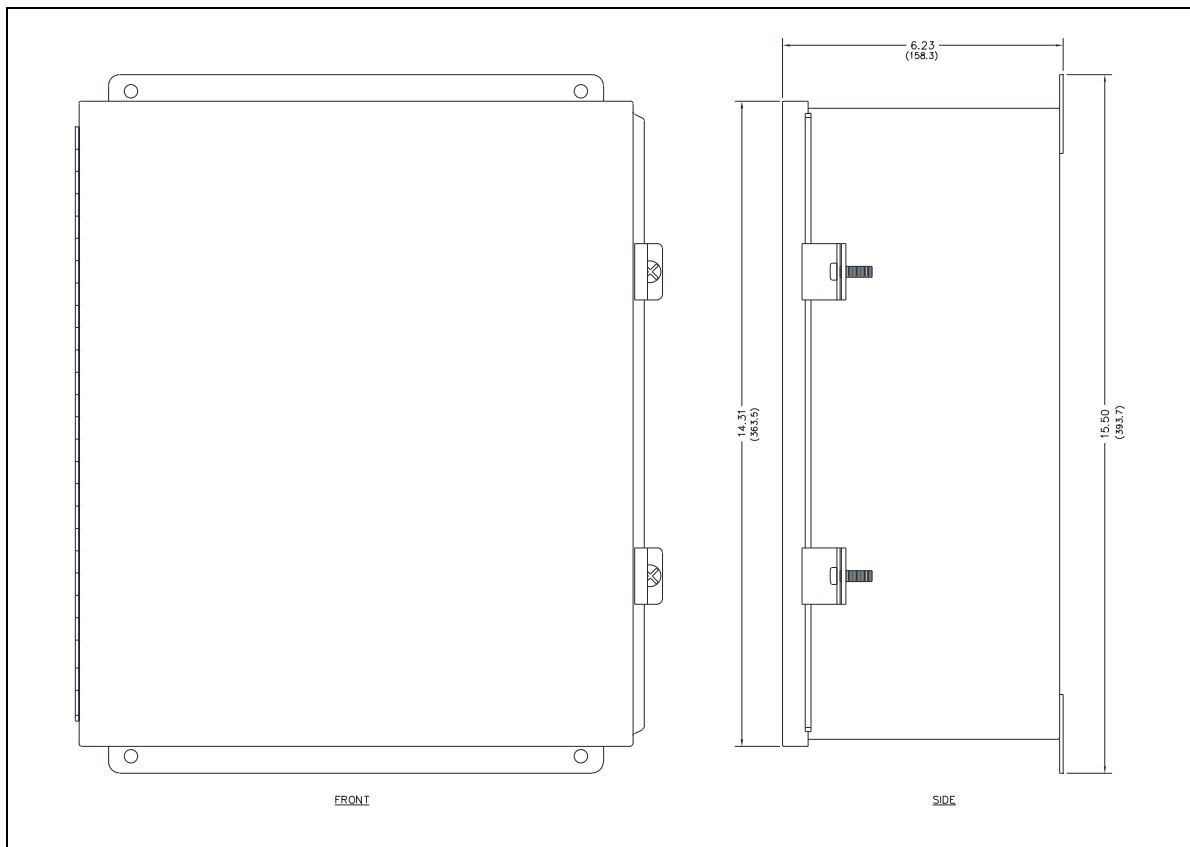

Figure 2. Model 378-003 IP MIM Station Enclosure
1. Mount the enclosure using 1/4-20 (M6) hardware, appropriate for the mounting surface, through the four 0.31-inch (7.9 mm) diameter holes, on the mounting flanges (see Figure 2).